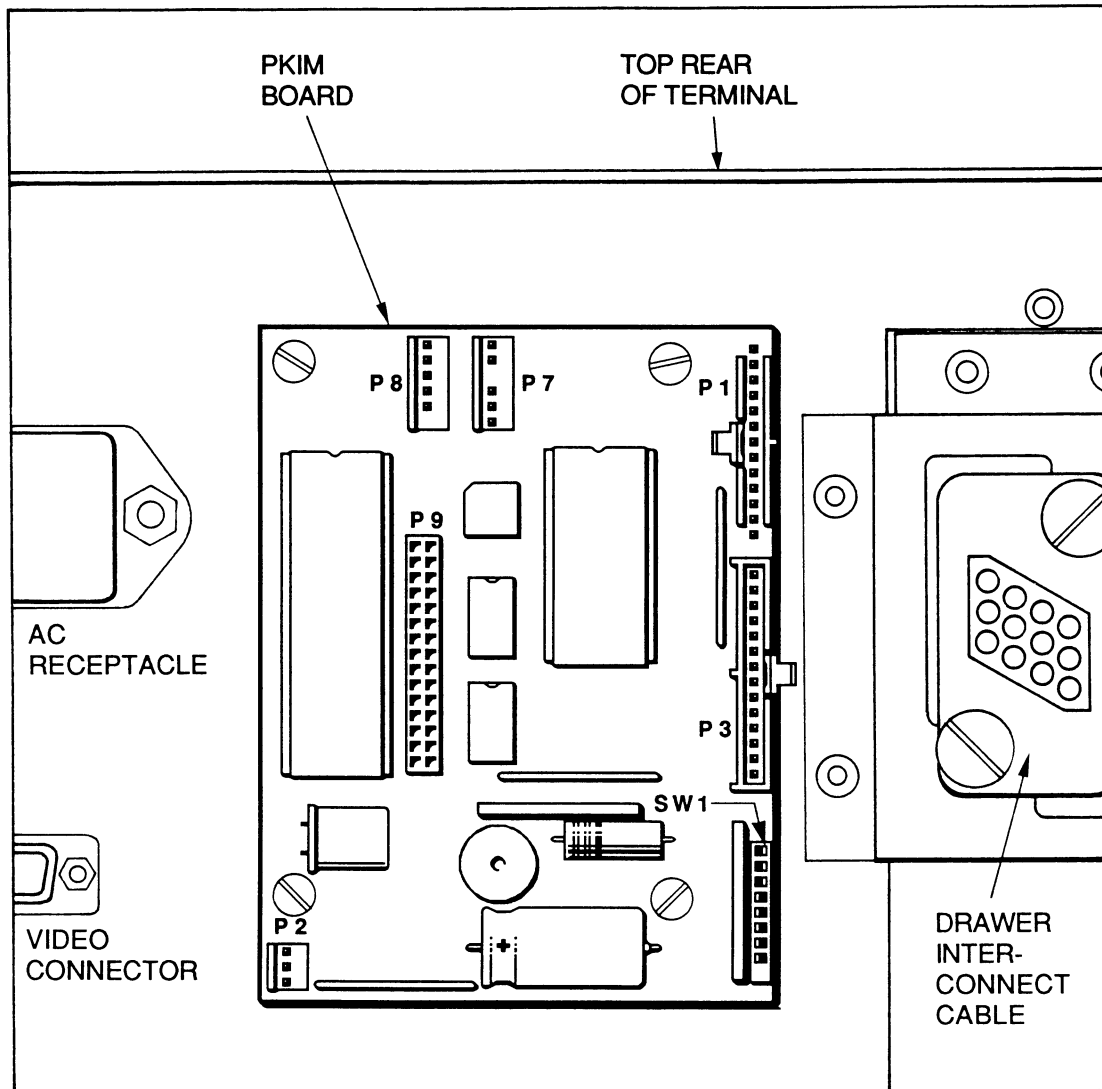

Figure 4-1. Location of Programmable Keyboard Interface Module
1. Remove the front panel by removing the nine screws that secure it to the chassis. Locate the PKIM on the right hand interior side of the back panel (see Figure 4-1 below).